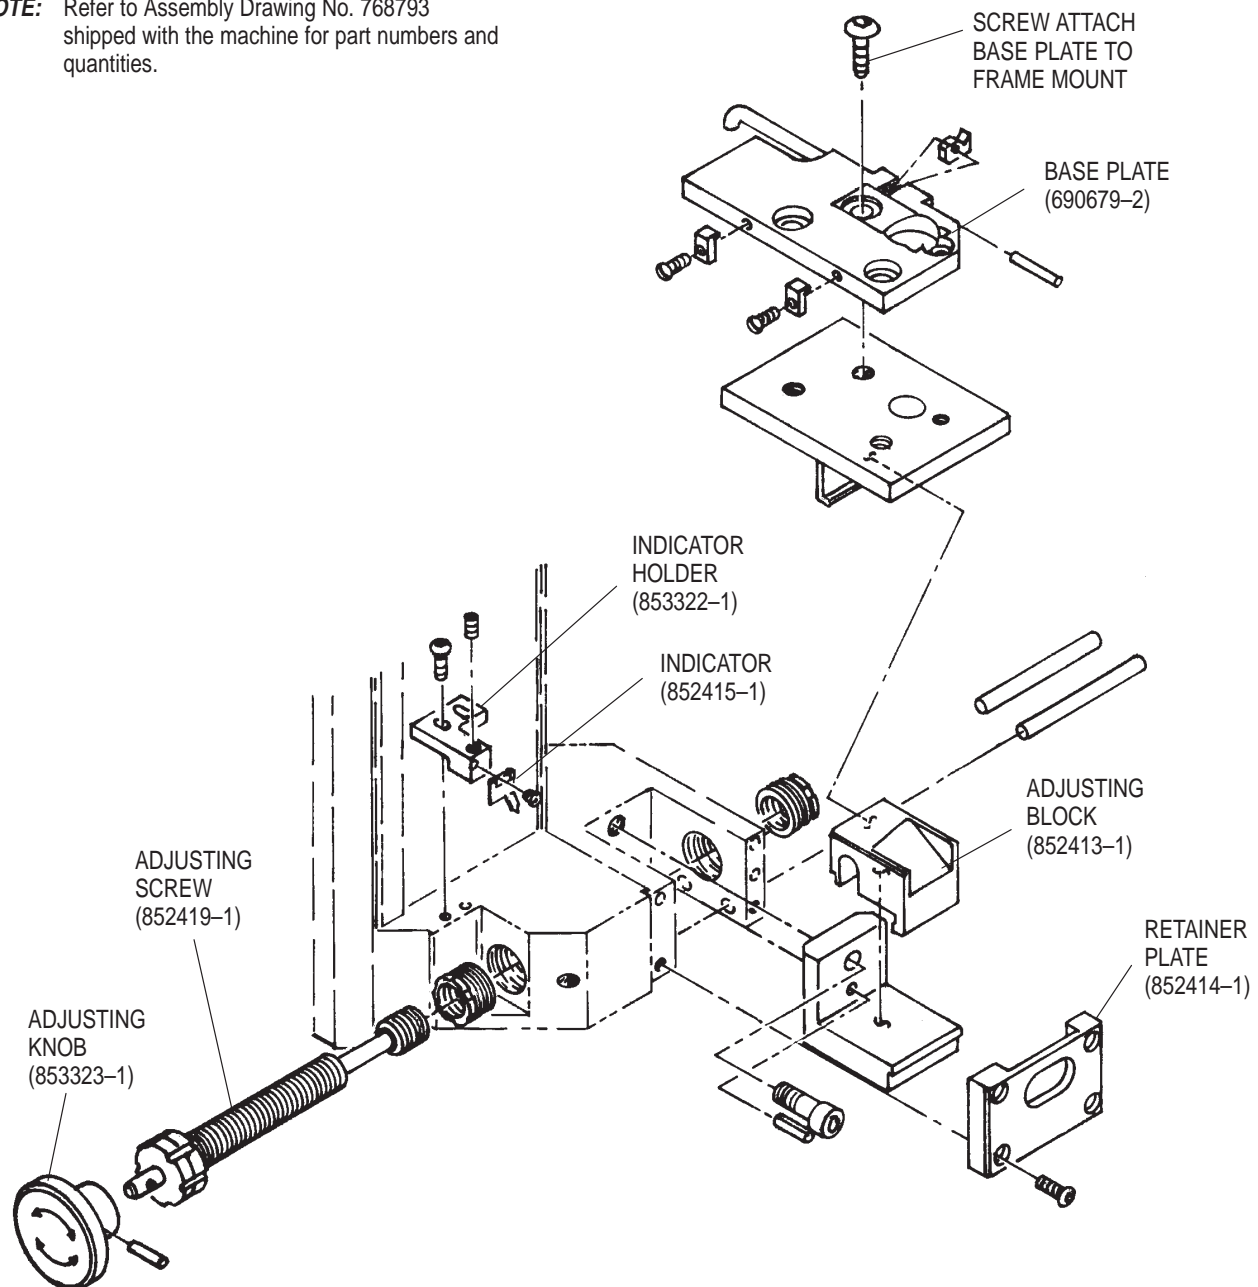

Figure 6-4. Precision Adjustment Base Replacement
6.8. Precision Adjustment Base Replacement (Figure 6-4)